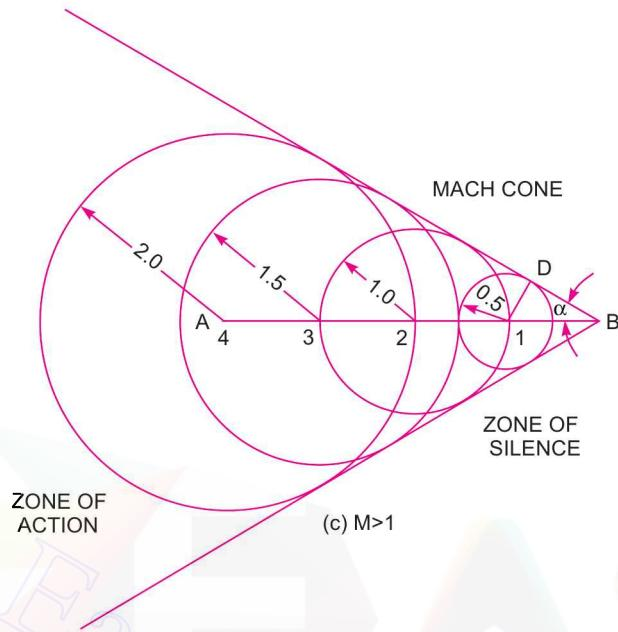

Fig. 15.3 Propagation of disturbance for different Mach numbers.
Let in 4 seconds the projectile reaches to the position  $B$ . At  $A$ , the point 4 is also marked. The position of the projectile after 1 sec, 2 sec, 3 sec and 4 sec along the lines are shown by the points 3, 2, 1 and  $B$  respectively. The projectile moves from  $A$  to  $B$  in 4 seconds and hence the distance  $AB = 4 \times V = 4 \times 1 = 4$  units. The disturbance created at  $A$  in 4 seconds will move a distance  $= 4C = 4 \times 2 = 8$  units in all directions. Hence taking  $A$  as centre and radius equal to 8 units, a circle is drawn. This circle gives the position of disturbance after 4 seconds. When the projectile is at point 3, it will reach  $B$  in three seconds and distance  $3B = 3 \times V = 3 \times 1 = 3$  units. But the disturbance created at point 3 in three seconds will move a distance having a radius  $= 3 \times C = 3 \times 2 = 6$  units. Similarly at point 2, the disturbance will have a radius  $= 2 \times C = 4$  units and at point 1, the disturbance will have a radius  $= 1 \times C = 1 \times 2 = 2$  units. This is shown in Fig. 15.3 (a).
**2nd Case : When  $M = 1$ .** When  $M = 1$ , the flow is known as sonic flow. In this case, the disturbance always travels with the projectile as shown in Fig. 15.3 (b). Let  $V = 1$  unit, and  $C = 1$  unit so that  $M = \frac{V}{C} = \frac{1}{1} = 1.0$ . Let the projectile moves from  $A$  to  $B$  in 4 seconds. The disturbance created at  $A$  in 4 seconds will move a distance having radius  $= 4 \times C = 4 \times 1 = 4$  units in all directions. The projectile
**3rd Case : When  $M > 1$ .** When  $M > 1$ , the flow is known as supersonic flow. Let  $V = 1$  unit and  $C = 0.5$  unit so that  $M = \frac{V}{C} = \frac{1}{0.5} = 2.0$ , which is greater than unity. Let the projectile moves from  $A$  to  $B$  in 4 seconds. The distance travelled by the projectile in 4 seconds  $= 4 \times V = 4 \times 1 = 4$  units. Hence, take  $AB = 4$  units. The disturbance created at  $A$  will move in all directions and in 4 seconds, the radius of disturbance will be equal to  $4 \times C = 4 \times 0.5 = 2$  units. Hence taking  $A$  as centre, draw a circle with radius equal to 2 units. After one second from  $A$ , the projectile will be at point 3 and distance  $A3 = V \times 1 = 1 \times 1 = 1$  unit. The projectile from point 3 will reach point  $B$  in three seconds. Hence the disturbance created at point 3 will move in all directions and in three seconds, the radius of disturbance from point 3 will be equal to  $3 \times C = 3 \times 0.5 = 1.5$  units. Similarly the radius of disturbance at point 2 and 1 will be  $2 \times C = 2 \times 0.5 = 1$  unit and  $1 \times C = 1 \times 0.5 = 0.5$  unit respectively as shown in Fig. 15.3 (c). In this case the sphere of propagation of disturbance always lags behind the projectile. If we draw a tangent to the different circles which represent the propagated spherical waves on both sides, we shall get a cone with vertex at  $B$ . This cone is known as **Mach Cone**.
**15.6.1 Mach Angle.** This is defined as the half of the angle of the Mach cone. In Fig. 15.3 (c), angle  $\alpha$  is known as Mach angle. In the  $\Delta 1BD$  of Fig. 15.3 (c), the distance  $1B$  = Velocity of projectile  $= V$ , the distance  $1D$  = Velocity of sound wave  $= C$ . Hence we have